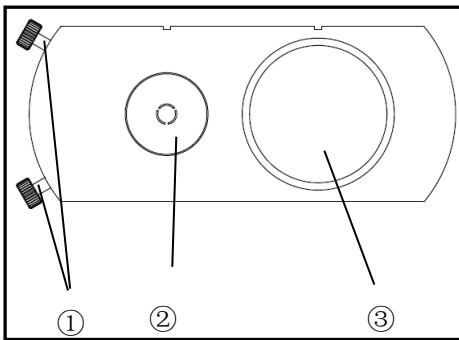

Fig.33
7.1.2 Phase Contrast Slider (Fig.33)